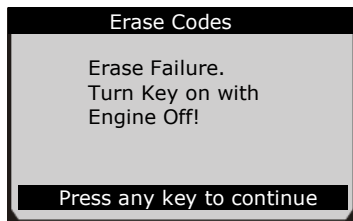

Figure 6-8
- If the codes are not cleared, then an “Erase Failure. Turn Key on with Engine off!” message appears. (Figure 6-8)